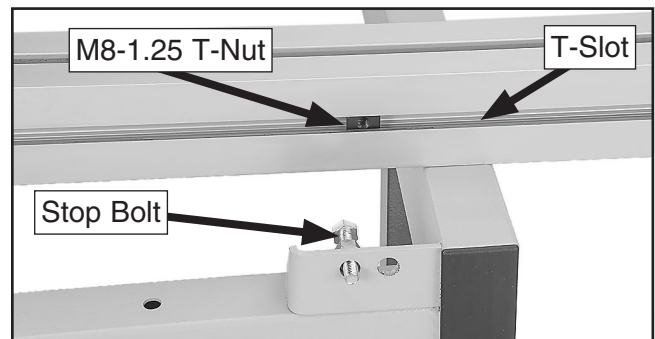

Figure 44. T-nut installed in bottom T-slot of crosscut fence for stop block.
39. Slide (1) M8-1.25 T-nut into T-slot in bottom of crosscut fence (see **Figure 44**) and position in front of stop bolt.